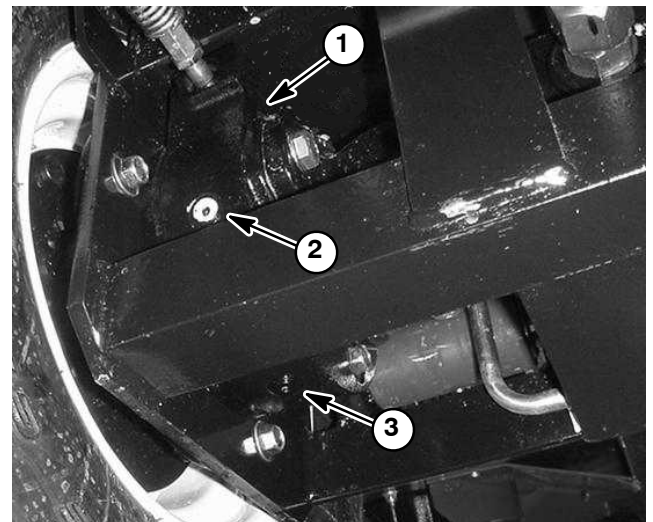

Figure 3
8. Make sure drain plug is installed in bottom of brake assembly (Fig. 3). Fill planetary wheel drive/brake assembly with SAE 85W-140 gear lube. Capacity is approximately 16 fl. oz. (0.47 liters) per wheel.